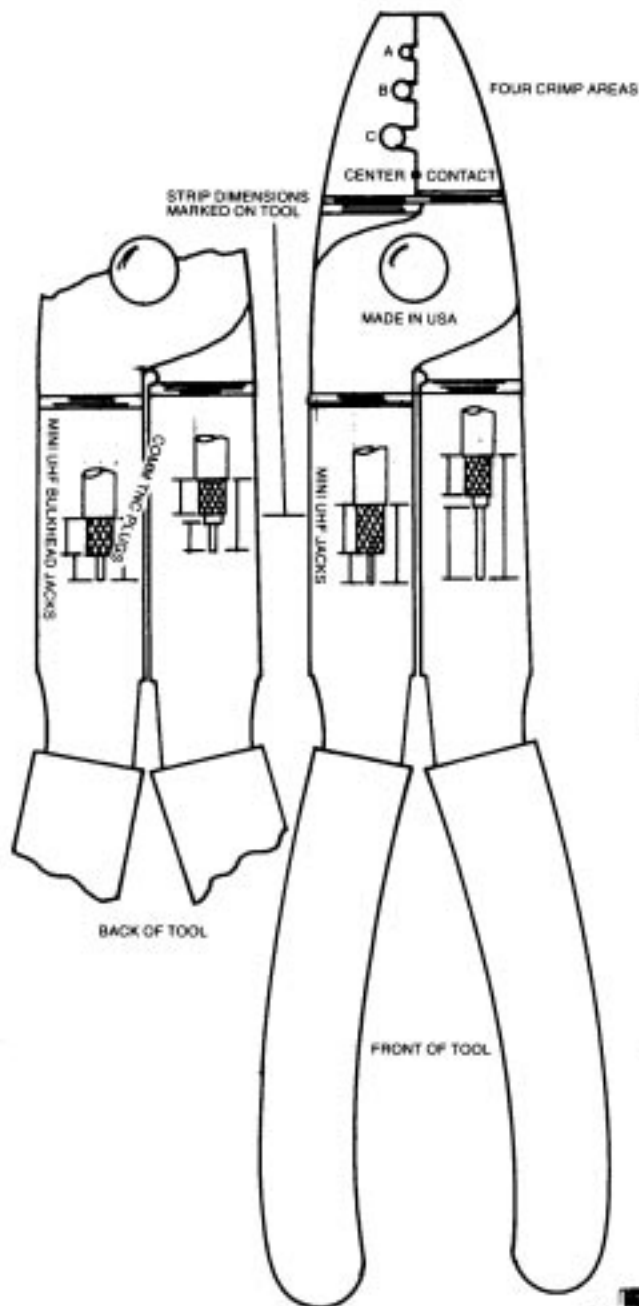
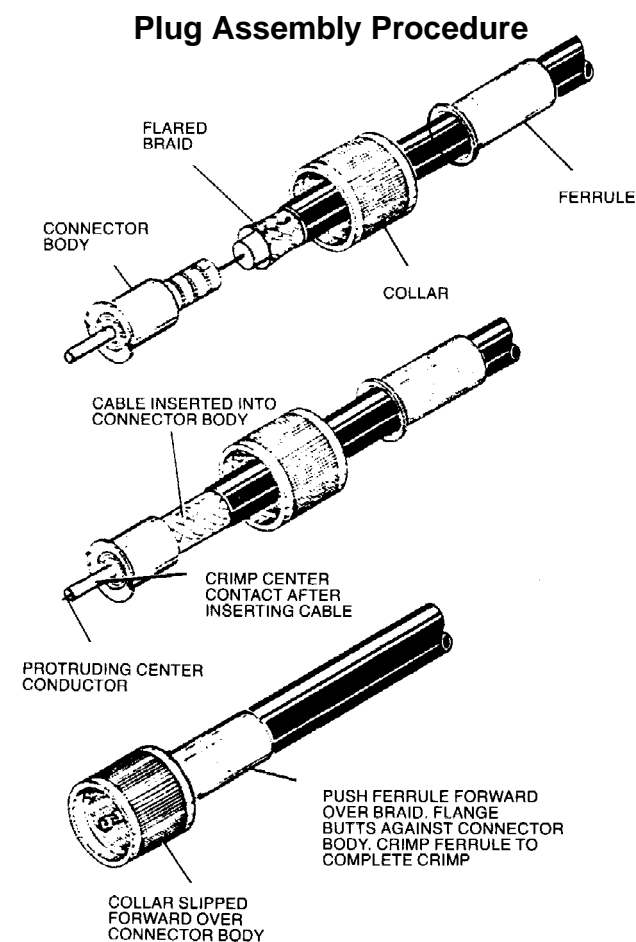

Figure 10. Crimp Tool
Figure 12.
Use Motorola hand tool part #66-80388A26. Refer to Figure 10. A deluxe ratchet type tool is available; order part #66-80334B40.
1. Slip the ferrule and collar onto the cable. Refer to Figure 12.
the dielectric bottoms inside the body. Refer to Figure 12.
4. Crimp the center contact using the proper crimp section of the tool. Refer to Figure 10 marked "CENTER CONTACT".
5. Push the collar forward onto the plug assembly. Fit the cable braid over the support sleeve of the connector. Refer to Figure 12.
6. Push the ferrule over the braid until the flange butts against the connector body. Refer to Figure 12. Using the correct crimp area of the tool, crimp the ferrule close to the plug body. See Figure 10 crimp location "C". Crimp the ferrule a second time close to the cable end, using the "C" crimp area of the tool.